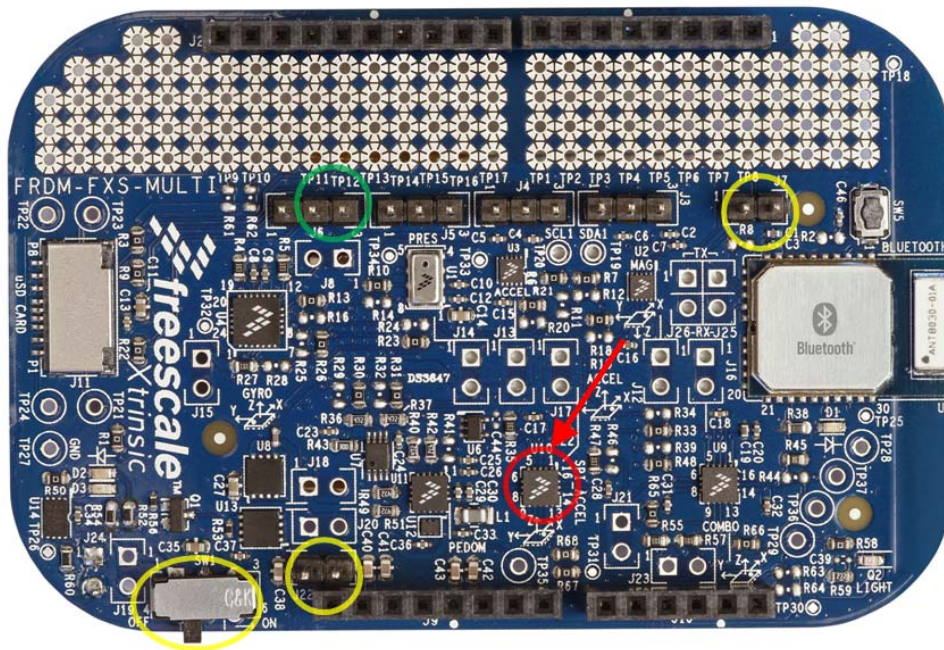

Figure 2. FRDM-FXS-MULTI-B top view
The Freescale Xtrinsic FXLS8471Q Accelerometer is located on the FRDM-FXS-MULTI(-B) as indicated by the red circle in Figure 2.
3. Connect header J6 pins 2-3 together using a jumper. Refer to green circle in Figure 2.
5. If a wireless connection is desired (FRDM-FSX-MULTI-B only), connect together header J7, pins 1-2 and header J22, pins 1-2 using a jumper and turn SW1 to ON position to use battery power. Refer to yellow circles in Figure 2.
The Bluetooth module on-board needs to be paired with the host PC in order to use Serial Port Profile (SPP) for communications. Once paired, the blue LED D1, next to the Bluetooth module, will be lit. See Figure 2.